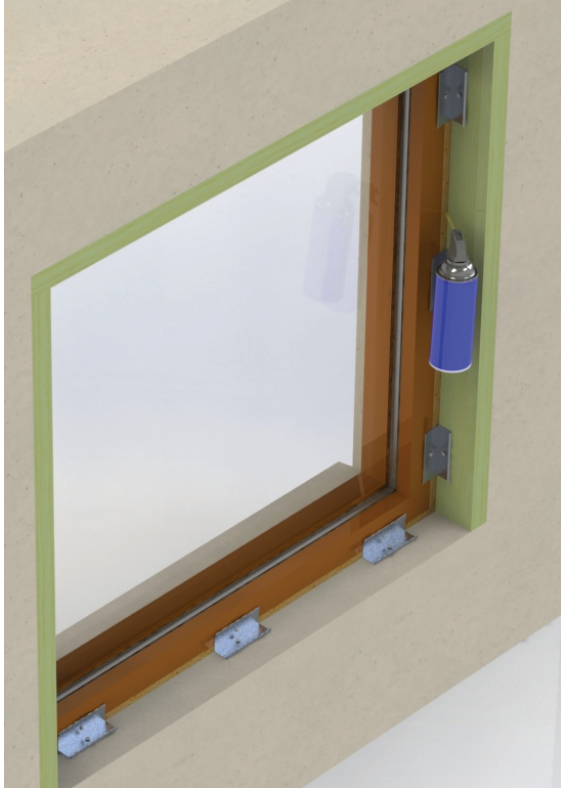

Fig. 15
- A. Insulate between the window frame and the rough opening using minimally expanding window and door spray foam or fiberglass insulation that is compliant with AAMA 812-04. Read and follow the manufacturers' recommendations for application and use. (Fig. 15)